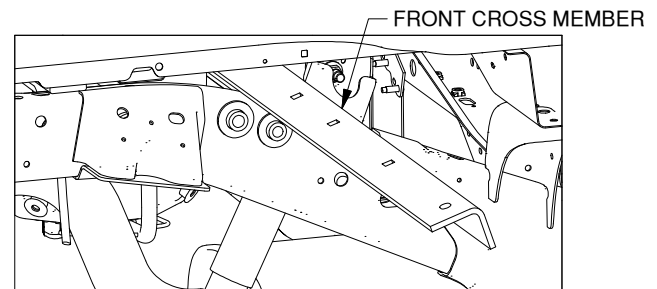

Figure E1: Looking into passenger side wheel well.
1. **Place front cross member.** Locate the front cross member and position it on the passenger side of the truck, see Figure E1. The cross member will resemble an upside down "V". The flange with the holes will be toward the rear of the truck. Slide the front cross member between the bed and the frame in front of the center section until it spans the driver and passenger frame rails. Move cross member towards the front of the truck to make room to install the front cross member brace.